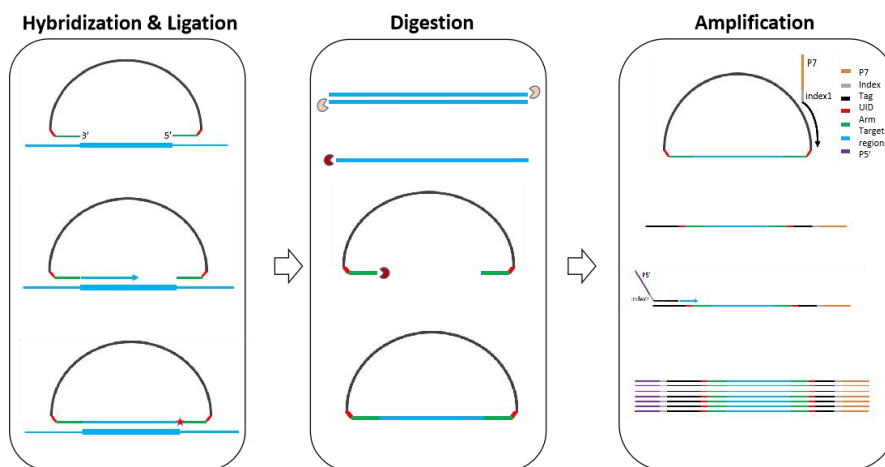

Figure 1 Principle of library construction (HANDLE system)
The test kit is based on the Halo-shape ANnealing and Defer-Ligation Enrichment (HANDLE) system technology which is an improved Molecular Inversion Probe (MIP) technology to capture the target gene region (Figure 1). The unique molecular identifier (UID) is introduced to both ends of each DNA fragment to trace back to original template for error correction. The library construction time of HANDLE system is 5 hours with 1 hour hands-on time. After quality control (QC), the prepared DNA libraries are sequenced on Illumina sequencing platforms to detect the *BRCA1/2* gene mutations and HRD status.